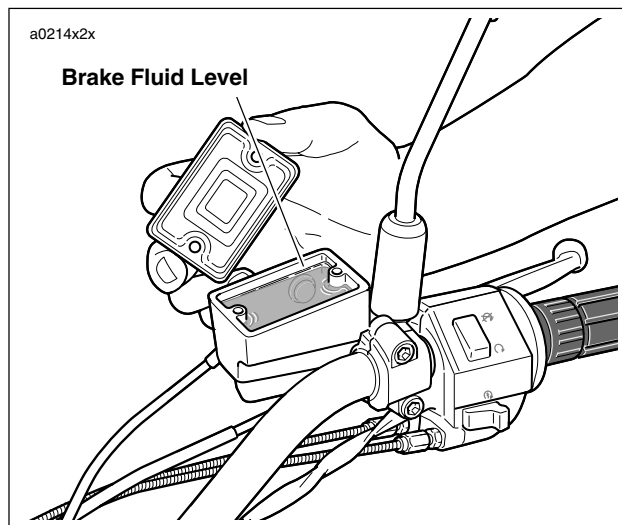

Figure 2-33. Brake Fluid Level
- See Figure 2-33. With the master cylinder in a level position, add **D.O.T. 4 BRAKE FLUID**. Bring fluid level to within 0.125 in. (3.2 mm) of molded boss inside front master cylinder reservoir.